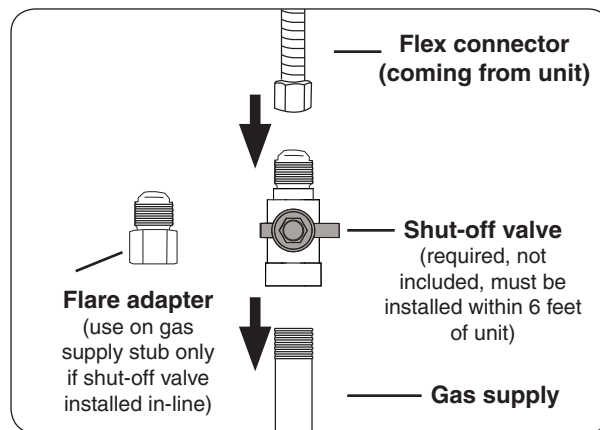

Fig. 16-1 Connecting to a gas line
- Connect the flex connector to the shut-off valve (see Fig. 16-1). Tighten securely.
- Install the supplied flare adapter to the gas supply using a pipe joint compound resistant to all gasses (see Fig. 16-1). Tighten securely.
- Connect the flex connector to the flare adapter (see Fig. 16-1). Tighten securely.